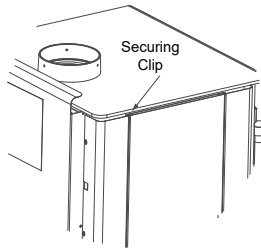

Figure 25.3
The appliances are being shipped with a solid side panel securing clip on both sides. Please remove and discard pins prior to use (**Figures 25.3**).
2. Remove tile frame from side by lifting up and pulling away from appliance. **Figure 25.3 reference solid side panel removal.**